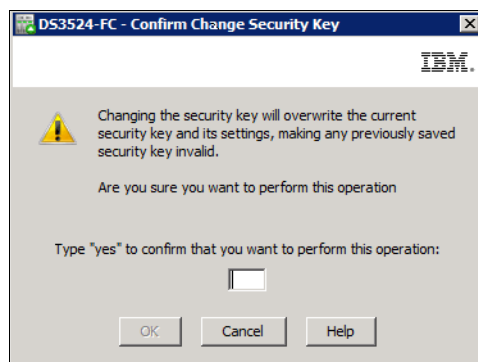

Figure 15-18 Confirm change security key
1. Click **Storage Subsystem** → **Drive Security** → **Change Security Key**. The confirmation window to change the security opens as shown in Figure 15-18.